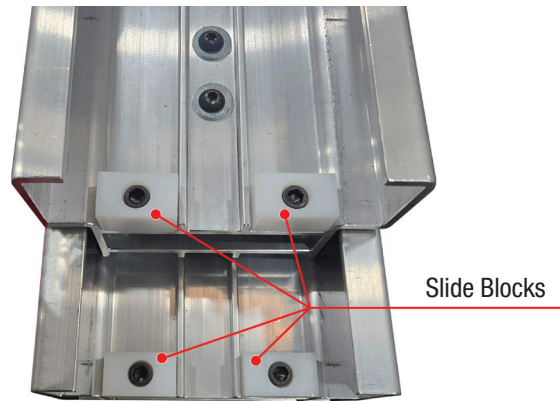
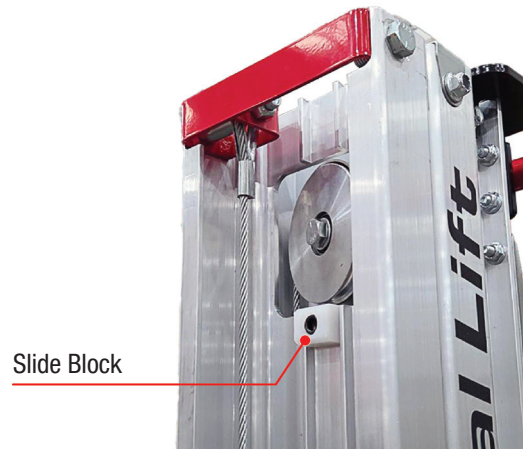

Figure 4-30: Slide Blocks
Figure 4-31: Slide Block
2. Move each mast section up or down to reveal the affected slide block(s) (see Figure 4-30 and Figure 4-31). Using 3/8" hex wrench and 9/16" wrench, remove the damaged white plastic slide block(s) and discard.